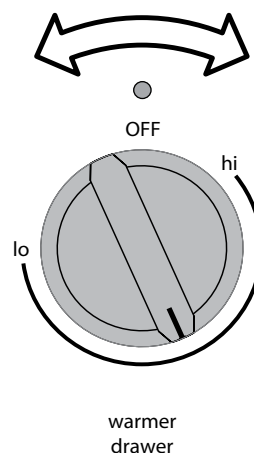

Fig. 2
The indicator light is located above the warmer drawer thermostat control knob (See Fig. 2). The indicator turns on when the control is set, and stays on until the heat setting is turned OFF.
Use the thermostat control knob to select the desired temperature setting for the warmer drawer. It is located on the control panel. The heat settings are marked **OFF**, **lo** and **hi**. Please note that the approximate medium setting is shown on illustration (See Fig. 2).
3. Push in and turn the warmer drawer control knob in either direction to the desired heat setting and release (See Fig. 2).